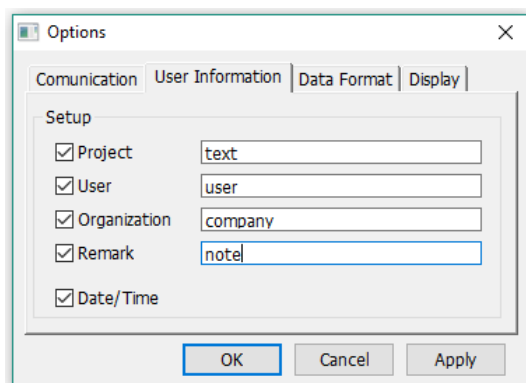

Fig. 2.7-1 User Information
- **User Information tab:** you can select with the check and enter information in the fields that will be added on the printout of the reports (Fig.2.7-1);